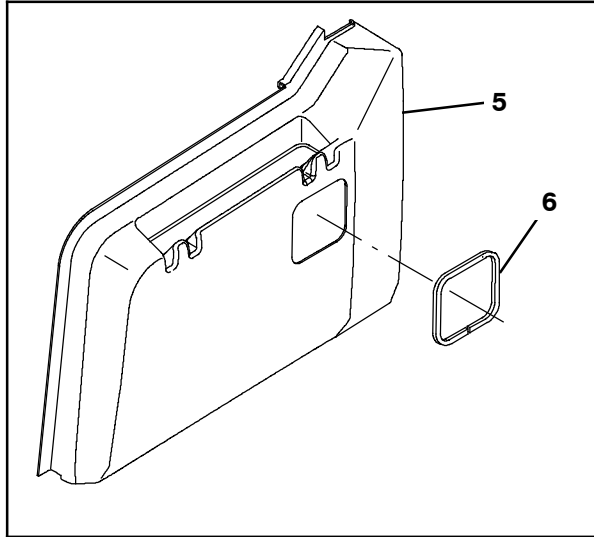

FIG. 5
18. Install the molding (6) into the charger access cover (5). (Fig. 5)